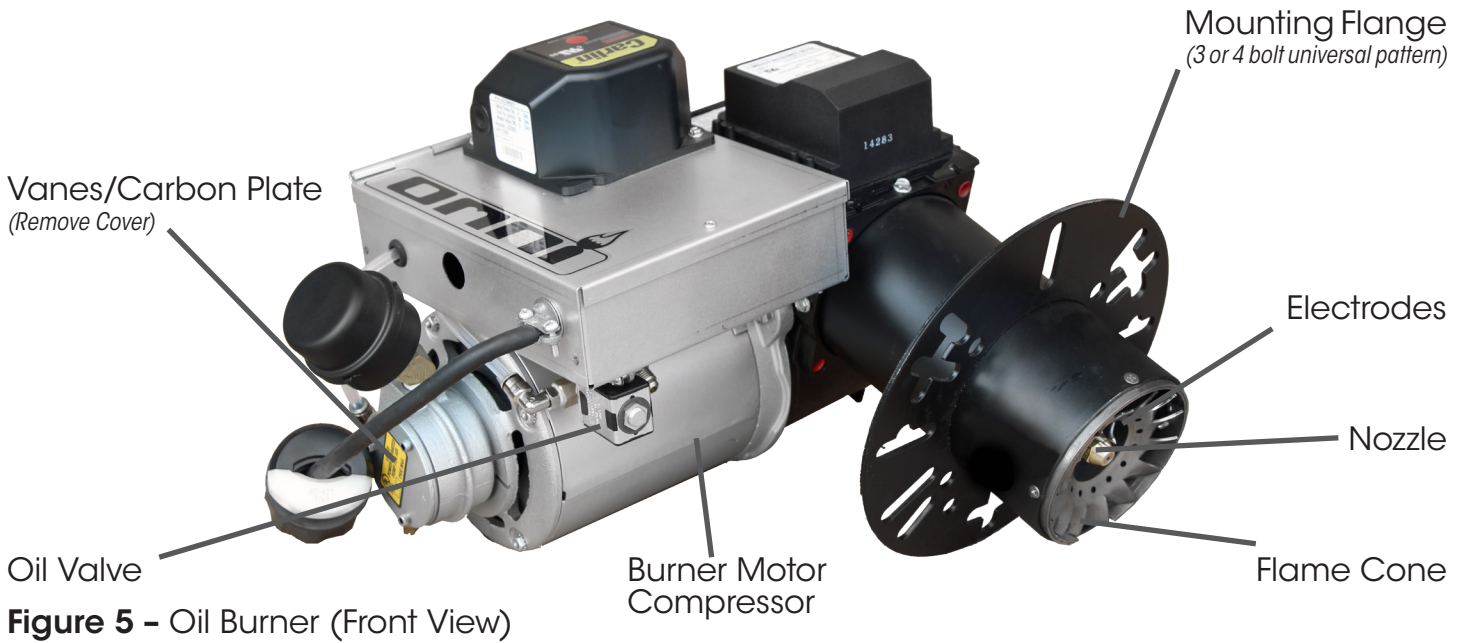

Figure 5 - Oil Burner (Front View)
- **Photo Eye:** (figure 5) Senses flame in combustion chamber and signals oil primary when no flame is present (located under hinged transformer).
- **Igniter Springs:** (figure 5) Transfers the high voltage from the igniter transformer to the electrodes (when door is closed)
- **Flame Cone:** (figure 5 & 6) Specially engineered flame cone forces the flame into a swirl pattern improving the burn thoroughness.